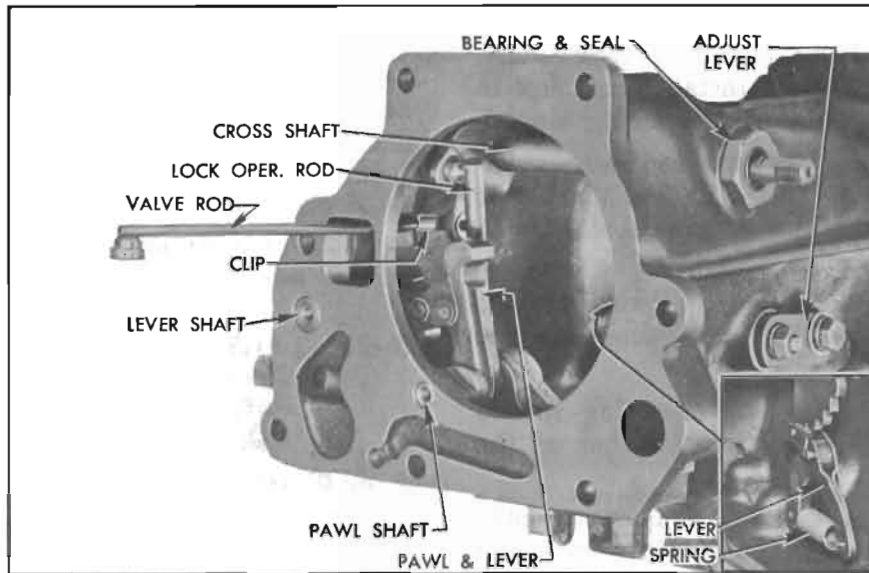

Figure 5-79—Parts in Rear Bearing Retainer
1. Remove spring from detent roller lever and support inside the rear bearing retainer, remove adjusting lever on outside of retainer, then remove lever and support assembly. See figure 5-79.
end from cross shaft lever. The rod end is provided with a lockwasher. See figure 5-79.
4. Screw a $\frac{1}{4}$ "-20 bolt into the parking lock operating lever shaft and the lock pawl shaft and pull these parts from bearing retainer, then remove the lock pawl and lever assembly. See figure 5-79.
2. Install parking lock pawl and lever assembly in rear bearing retainer, then install the lock pawl shaft and operating lever shaft with tapped ends outward. See figure 5-79.